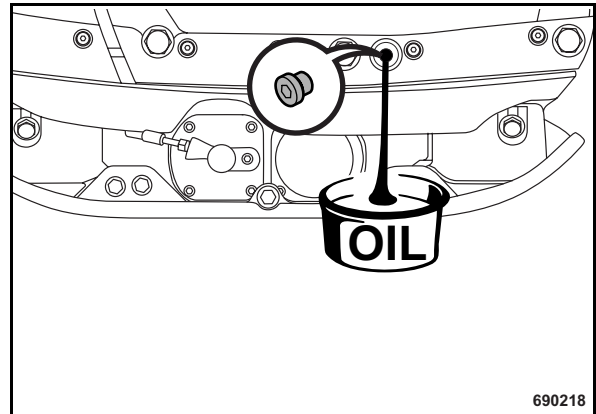

Fig. 60
- Unscrew the oil drain plug (Fig. 60) and catch any oil running out.